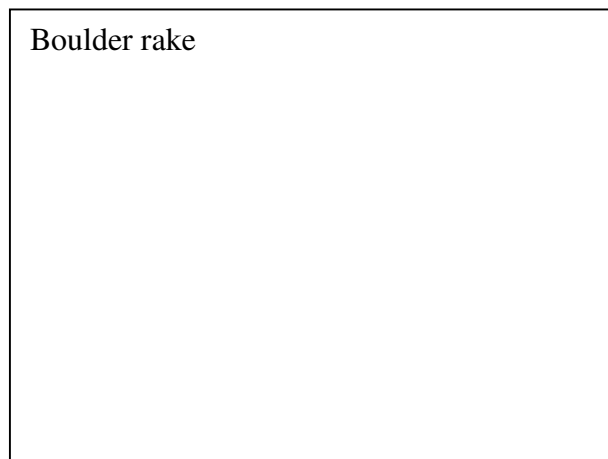

Fig 13
The boulder rake consists of a set of evenly-spaced, moving fingers (item 1, fig 13). The fingers separate out the large stones and transport them into the boulder box. The spacing of the fingers can be altered to collect the required boulder size. To adjust, loosen the finger clamp bolts and slide the fingers along the mounting bar. The rake drive system is spring-loaded to provide protection of the underweb if stones etc. get jammed between the underweb and fingers. Spring tension is set by adjusting the locking nuts (item 2, fig 13).